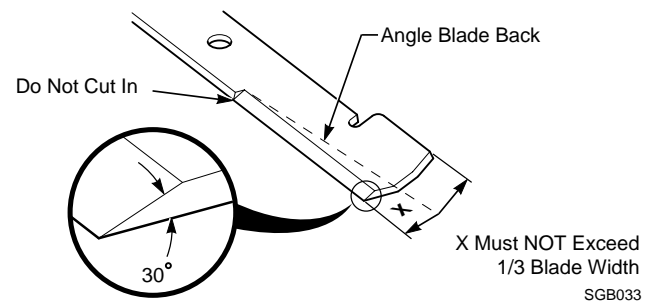

Figure 7-8 Blade Sharpening
1. Sharpen the cutting edge at the same bevel as the original (See Figure 7-8). Sharpen only the top of the cutting edge to maintain sharpness.